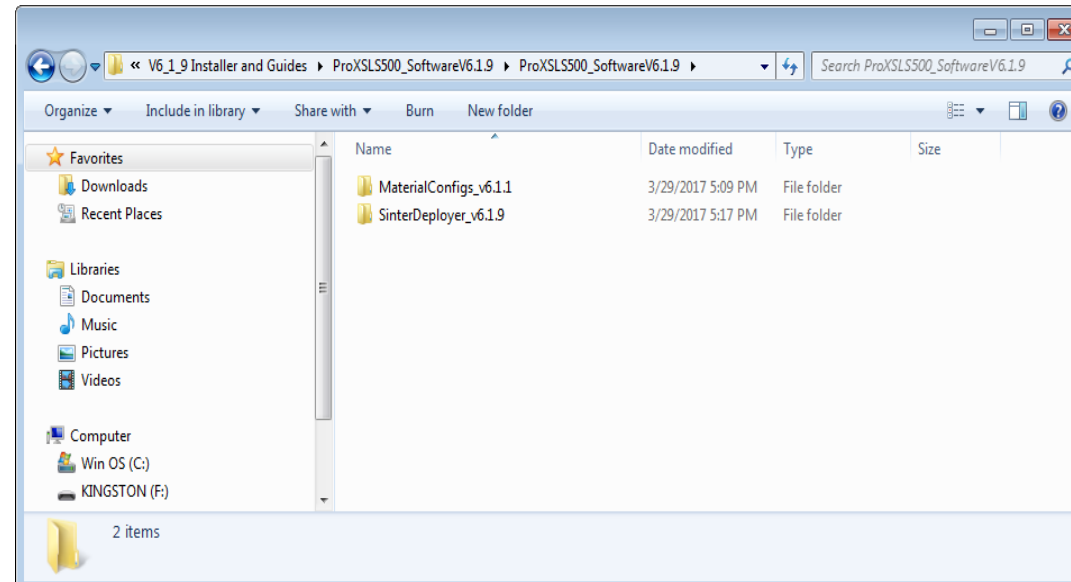

Figure 2
6. Extract all files from **ProXSL500\_SoftwareV6.1.9.zip** and you should be able to see two directories.(Figure 2)